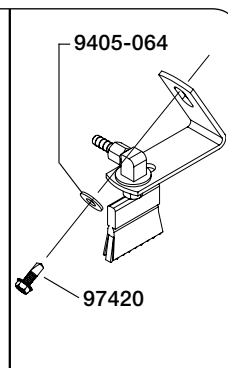

FIG. 2-20 OM23651-1
6. Attach mounting bracket (23112) using a flat washer (9405-064) and self-drilling screw (97420) (Fig. 2-20).